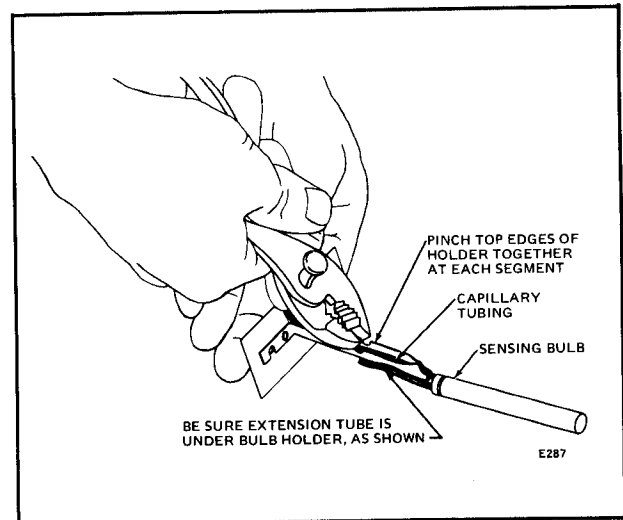

FIG. 6—INSTALLATION OF BULB IN PLENUM BULB HOLDER.
4. Place the capillary of the indoor bulb (bulb with 10 ft [3 m] of tubing) in channel of the holder. Make sure bulb is close to channel end of the holder. Pinch top edges of channel together with pliers as shown in Fig. 6.